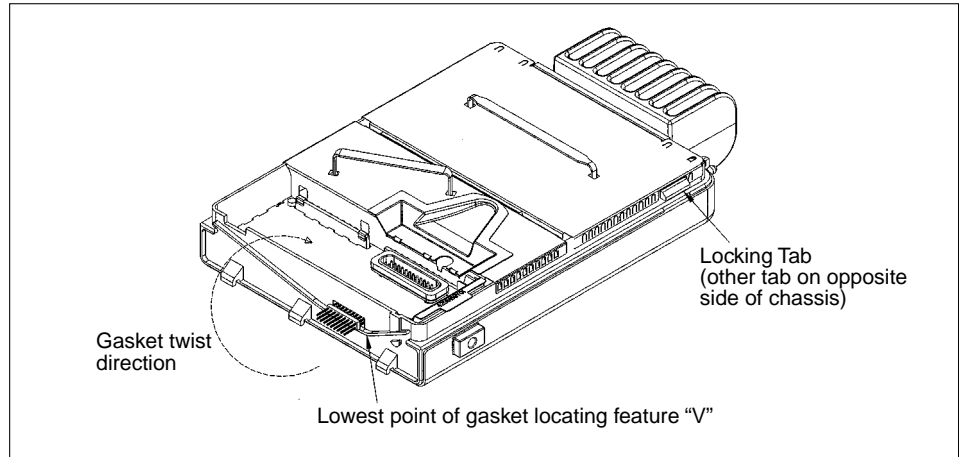

Figure 5-21 Installing Cover Gasket
11. Place a new cover gasket around the chassis being sure it is placed under the locking tabs and the v-shaped rail shown in Figure 5-21. To ensure that the gasket remains seated under the rail, twist the gasket up and toward chassis between the fingers at the location of the lowest point of "V". Position the gasket under the rail and release.